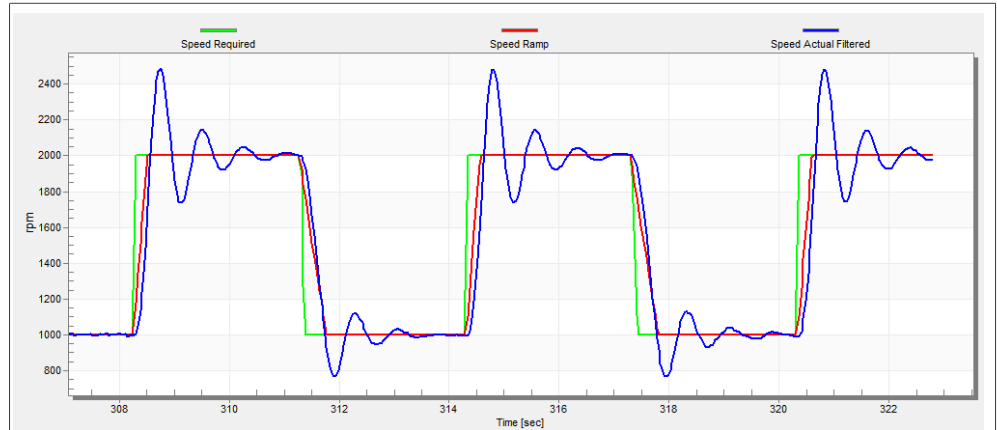

Figure 28. Speed controller response—SL_Kp value is low, Speed Actual Filtered greatly overshoots
- The “SL_Kp” value is low, the “Speed Actual Filtered” greatly overshoots, and the long settling time is unwanted (see Figure 28).